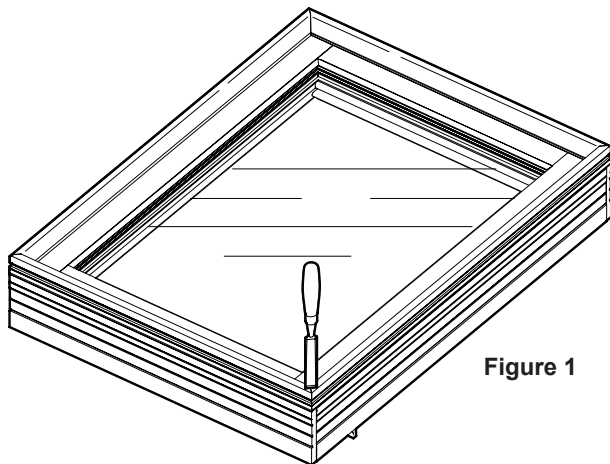

Figure 1
1. Any corner that intersects a mull must be notched to allow the mull cap to run through on multi high/multi wide assemblies. Any corner on the outside perimeter of a multi high/multi wide assembly will also need to be notched if there is clad casing or a spread mull cover applied to the perimeter of the assembly. (Figure 1)